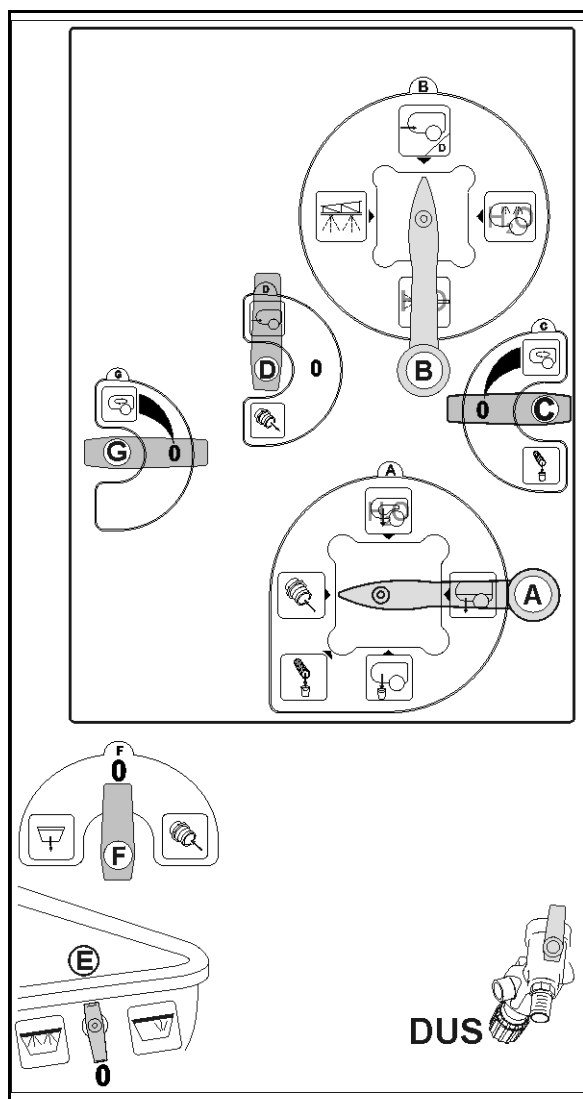

Fig. 136
2. Remove the pressure filter (Fig. 136/1) and clean with water.